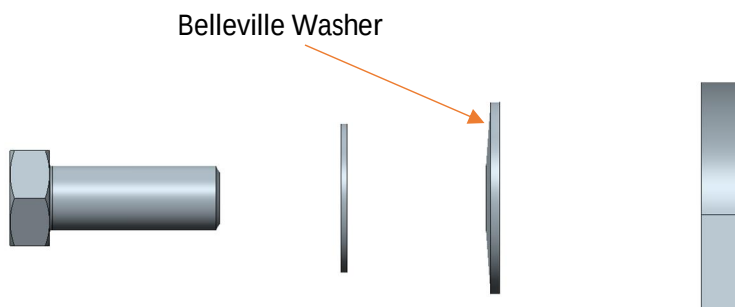

Figure 11 - MVS Handle Hardware
2. Remove switchgear handle, remove bolt on MVS and pin on MVI. Retain the bolt or pin for future use. Discard the original MVS or MVI handle, and the position indicator for the MVS. These parts will not be used. Install provided handles as shown in Figures 5, 8, 9, and 10. Install spacer in place of the position indicator. See Figure 11 for the orientation of the Belleville washer for the MVS handle installation. Torque the MVS handle bolt to 16-18 Ft-Lbs.